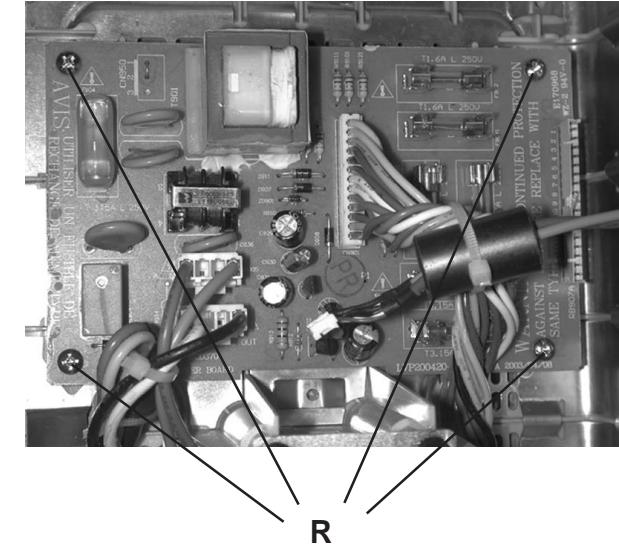

Figure 15
- 1) Loosen 4 screws " R" as shown in Figure 15.